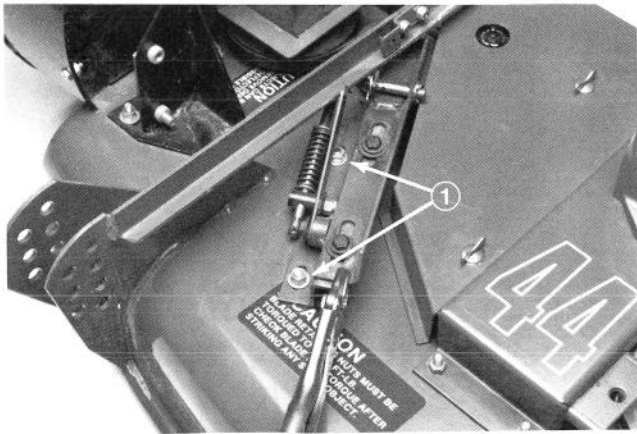

Figure 14
5. Remove clamp and mount idler assembly to deck with (2) 5/16-18x5/8 carriage bolts, flat washers and nuts. Position washer between nut and idler assembly (Fig. 14).